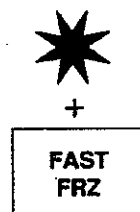

Figure 20
- b. To cancel FAST FREEZE mode before 24-hour automatic re-set, press START (*) pad; press FAST FRZ pad again. See Figure 20.